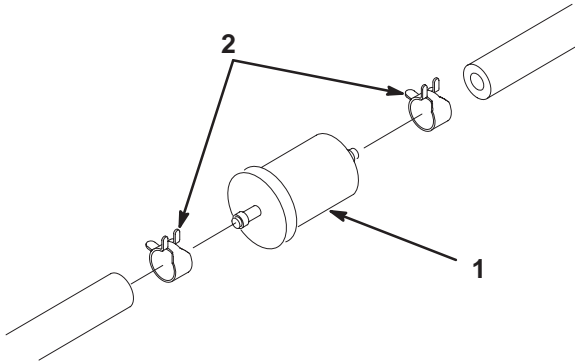

Figure 25
2. Clamp both fuel lines that connect to the fuel filter (Fig. 25) so that gasoline cannot drain when the lines are removed.